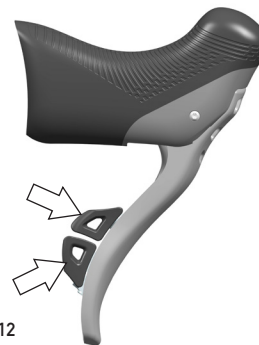

Fig.12
- By pressing the lower lever, the rear derailleur shifts down (Fig.12).
- By pressing the upper lever, the rear derailleur shifts up (Fig.12).